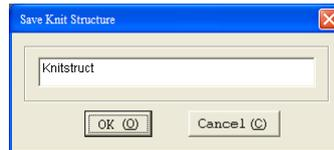

Figure 6-25 Input the file name of the Knit Structure pattern
**Save Knit Structure:** Save the image within the grid adjustment to Knit Structure file (Figure 6-25).